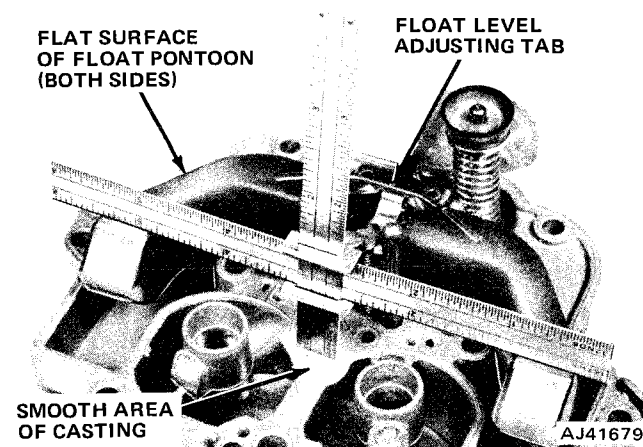

Fig. 1J-112 Float Adjustment
(1) Invert air horn assembly and remove gasket.
(2) Measure distance from float pontoons to air horn casting using T-scale. Position horizontal scale over flat surface of both float pontoons at free ends, parallel to air horn casting. Hold lower end of vertical scale in full contact with smooth area of air horn casting, located midway between main discharge nozzles (fig. 1J-112).